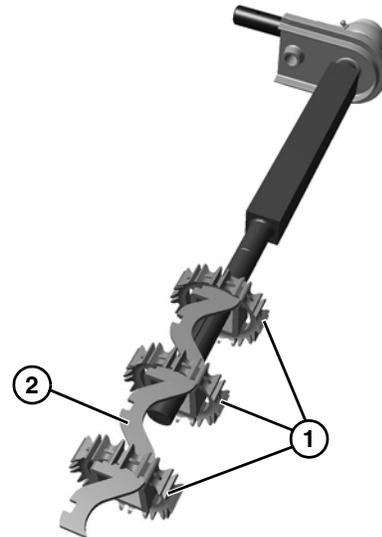

Figure 56
11. Remove the sprockets (Figure 56, item 1) and alignment bar (Figure 56, item 2).